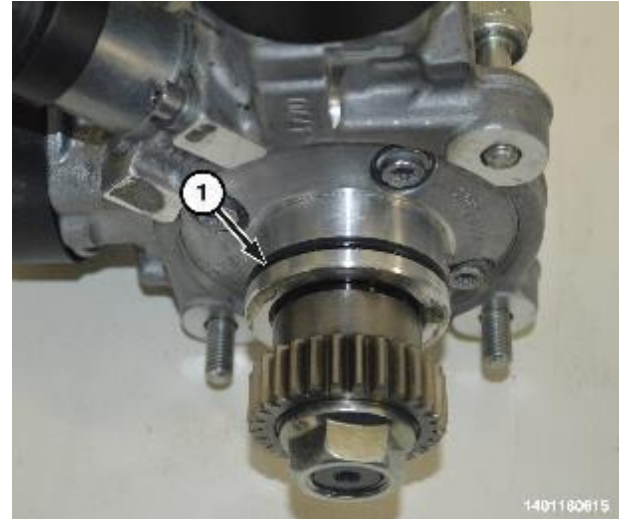

Figure 18 – HPFP O-ring Seal
27. Install a **NEW** O-ring seal (1) to the high-pressure fuel injection pump (Figure 18).